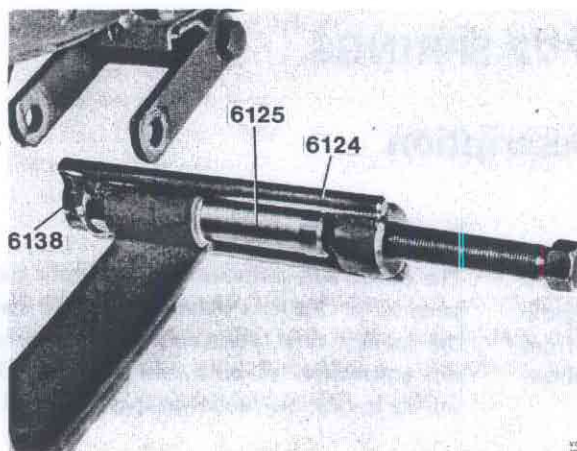

Fig. 72-2. Pressing out a spring bushing
4. Fit press tool 6124, drift 6125 and guide 6138 according to Fig. 72-2 and press out the bushing.
2. Press out the bushings in the spring with press tool 6124 and drift 6125, see Fig. 72-2.